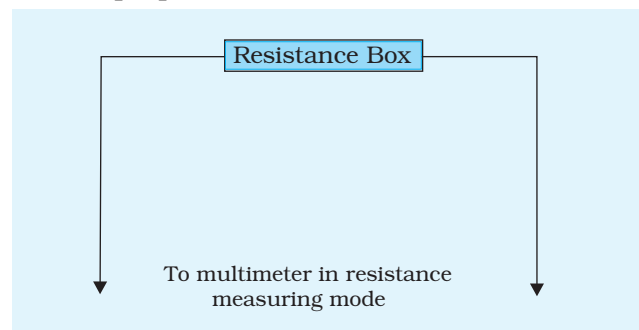

Fig. A 4.2 Use of multimeter as a resistance meter
When the resistance R is connected in a circuit, for example as shown in Fig. A 4.2, the potential difference across the two end points of the resistor can be measured by connecting the multimeter (with proper voltage setting) in parallel with the resistor.
indicates a discontinuity. A very low resistance ($\leq 0.1 \Omega$) between the two ends of a component indicates that the component under test has a short circuit. (Fig. A 4.2).
4. Separate the two metallic ends of the test probes and connect the resistance box with the multimeter as shown in Fig. A 4.2.